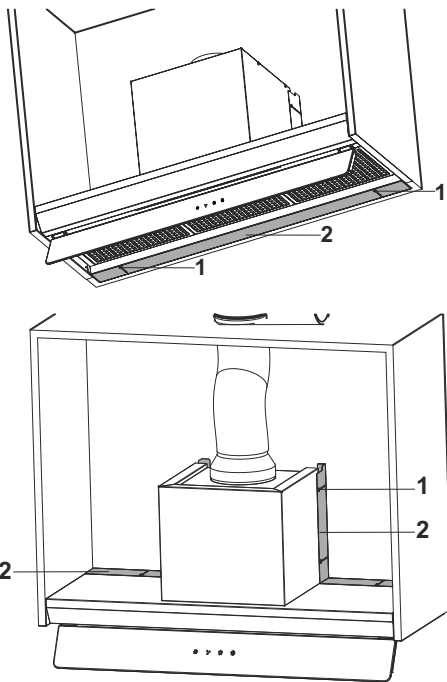

Fig. 15
4. ➔ If there is any clearance between the Hood and the rear surface, fill this clearance with the spacer plate mounted on the appliance (Fig. 15).
Loosen the spacer plate connection screws and stick the spacer plate by pushing it up to the back wall. Repeat this for the other spacer plates on the body (Fig. 15).